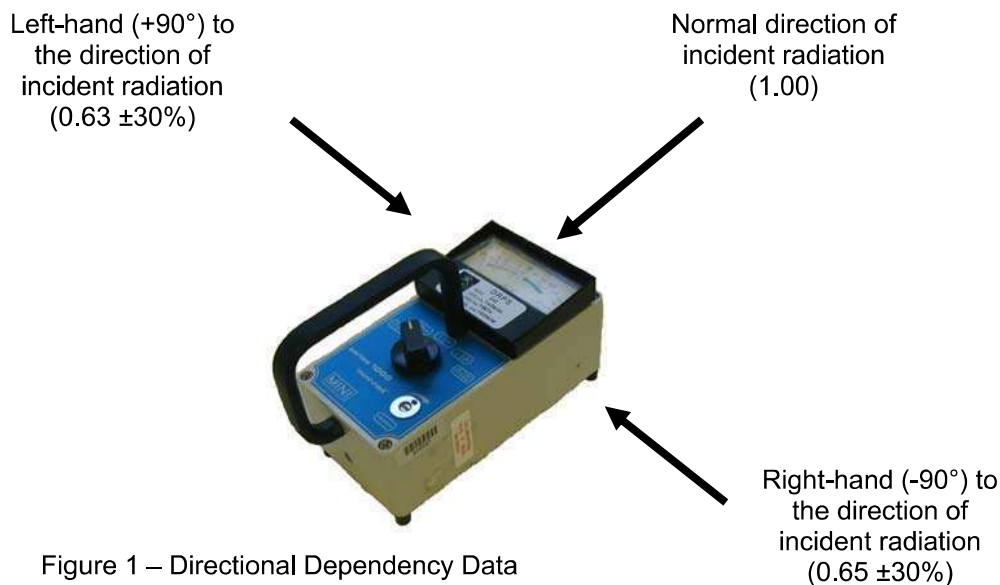

Figure 1 – Directional Dependency Data
- f. **Directional Dependency at 60 keV (^{241}Am or 65 keV ISO X-ray Quality).** Expose the instrument to ^{241}Am or 65 keV ISO X-ray Quality radiation field at an air kerma rate of $25\mu\text{Gy.h}^{-1}$ / or $100 \mu\text{Sv.h}^{-1}$ the expected polar responses are shown in Figure 1.
- f. **Directional Dependency at 60 keV (^{241}Am or 65 keV ISO X-ray Quality).** Expose the instrument to ^{241}Am or 65 keV ISO X-ray Quality radiation field at a dose rate of 25 $\mu\text{Sv.h}^{-1}$ / or 100 $\mu\text{Sv.h}^{-1}$ the expected polar responses are shown in Figure 1.